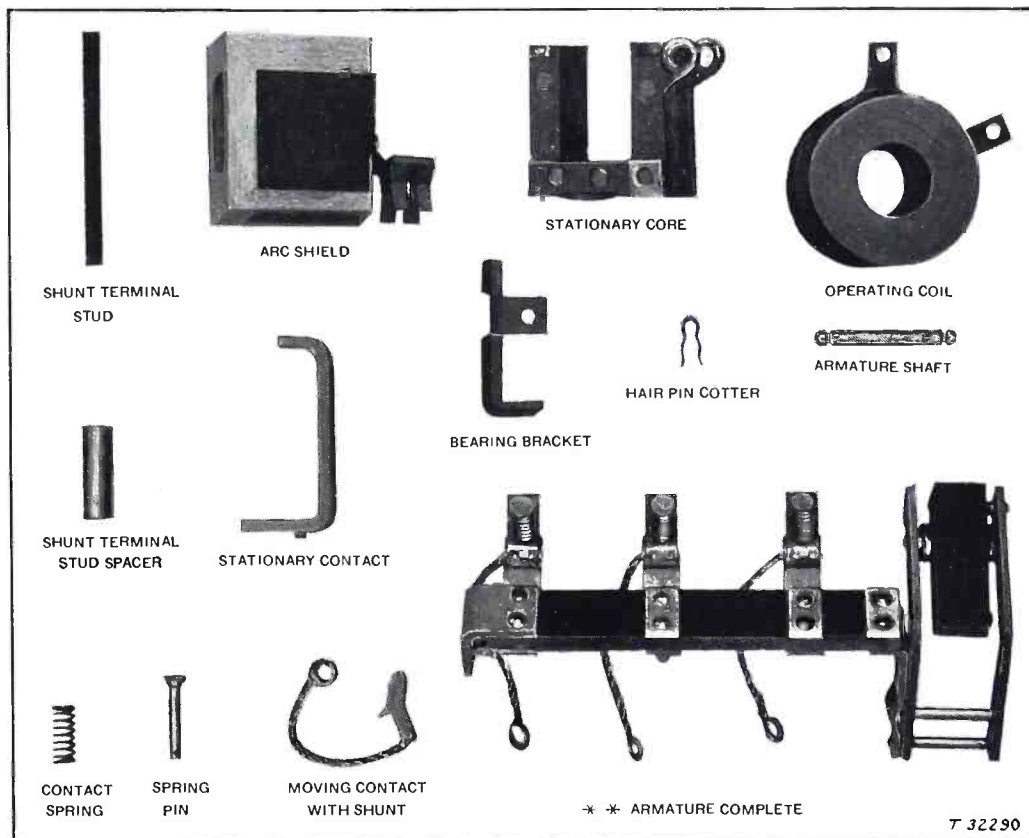

Fig. 2—Renewal Parts for Type F Magnetic Contactor, Frame No. 15-F5
1. Name the part, using the name shown on the illustration, figure 2, and state the quantity desired. When ordering operating coils, always give the style or L-number that is stamped on the metal tag attached to the old coil, or voltage and frequency of control circuit.